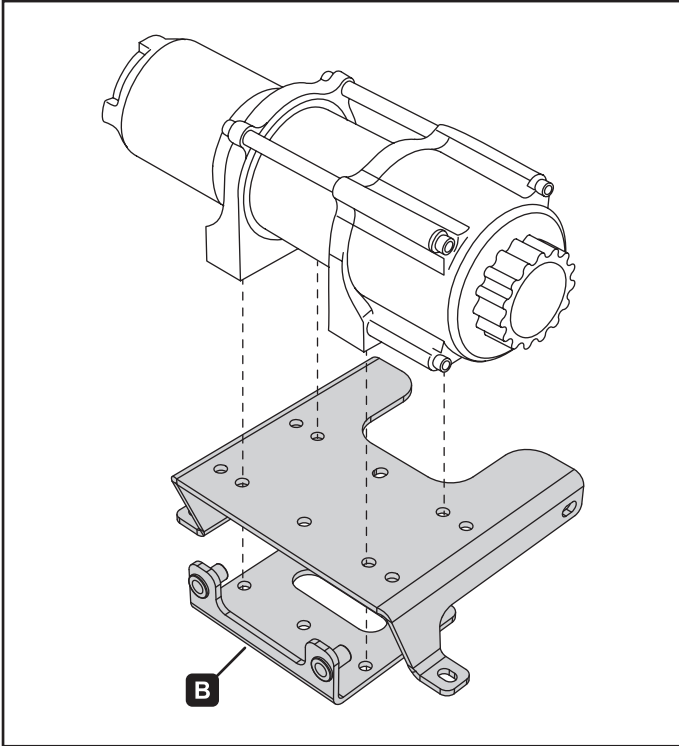

Figure 6. Standard winch configuration
Standard Winches: Use standard fairlead bracket (B) with the hardware that came with your winch, as shown in figure 6.